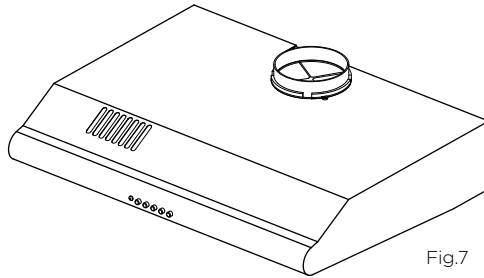

Fig.7
- Place the ducting adapter onto the hood and screw it in place using 10 mm screws (see Fig.7).